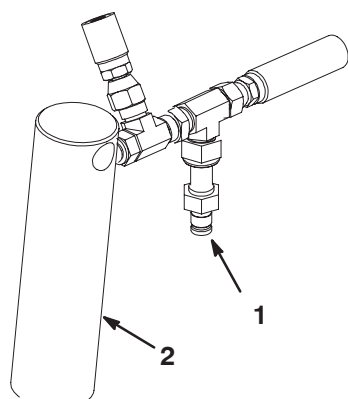

Figure 11
3. Connect a pressure gauge to the test port behind the left lift cylinder (Fig. 11).